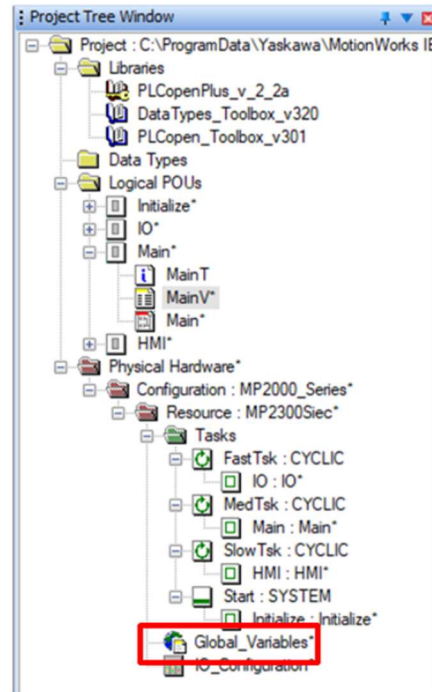

Figure 10: Project Tree Window
- Finally, check that the Hardware Configuration is saved in your main program. To do this double-click the Global Variables in the Project Tree Window as shown in Figure 10.